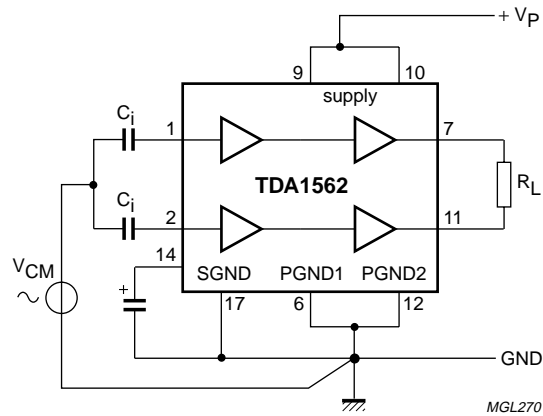

Fig.9 CMRR test setup.
- Common mode rejection ratio is measured across R_L ; $V_{cm} = V_{cm\ max.} = 2 V_{PP}$. CMMR [dB] = differential gain (G_v) + common mode attenuation (Ac), (Test setup according Fig. 9; mismatch of input coupling capacitors **excluded**).